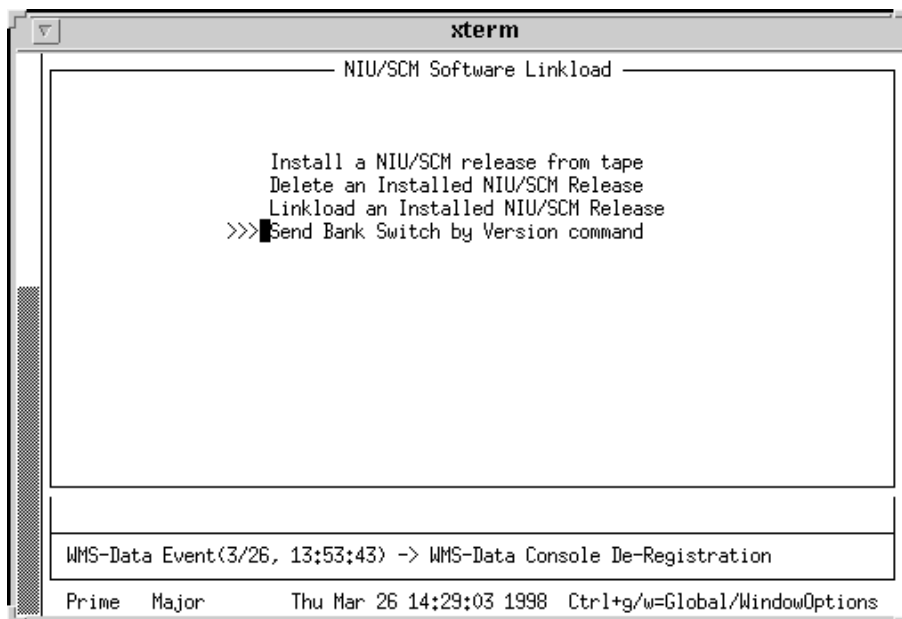

Figure 6-9: NIU/SCM Software Linkload Screen—Send Bank Switch by Version Command
1. From the NIU/SCM Software Linkload screen, use the **<tab>** to position the cursor to the left of the listing Send Bank Switch by Version command and press: **<Return>** (see Figure 6-9).